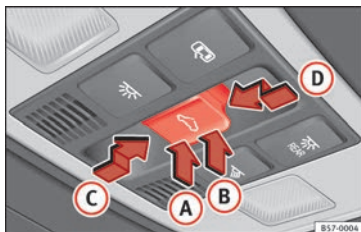

Fig. 140 On the interior roof lining: sunroof button.
The ⇄ button ⇨ **Fig. 140** has two levels. The first level switches the sunroof to the tilted position, opening or closing it fully or partially.
- *Sunroof*: within approx. 5 seconds of having activated the roll-back function, press the **↶** button **» Fig. 140** to the second level in the direction of arrow **» Fig. 140 D** until the sunroof closes completely.